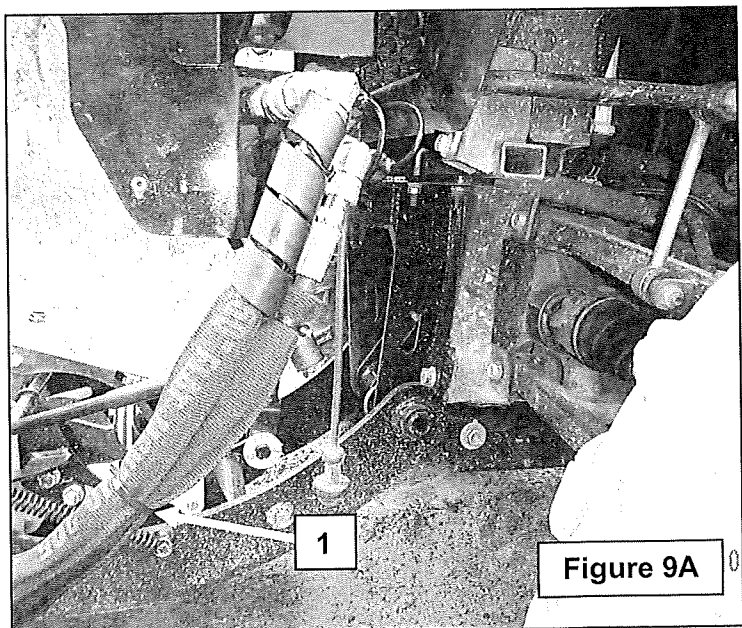

Figure 9A
12. **Figure 9A:** Secure the two hoses together with a nylon tie wrap (item 1) as shown in figure.